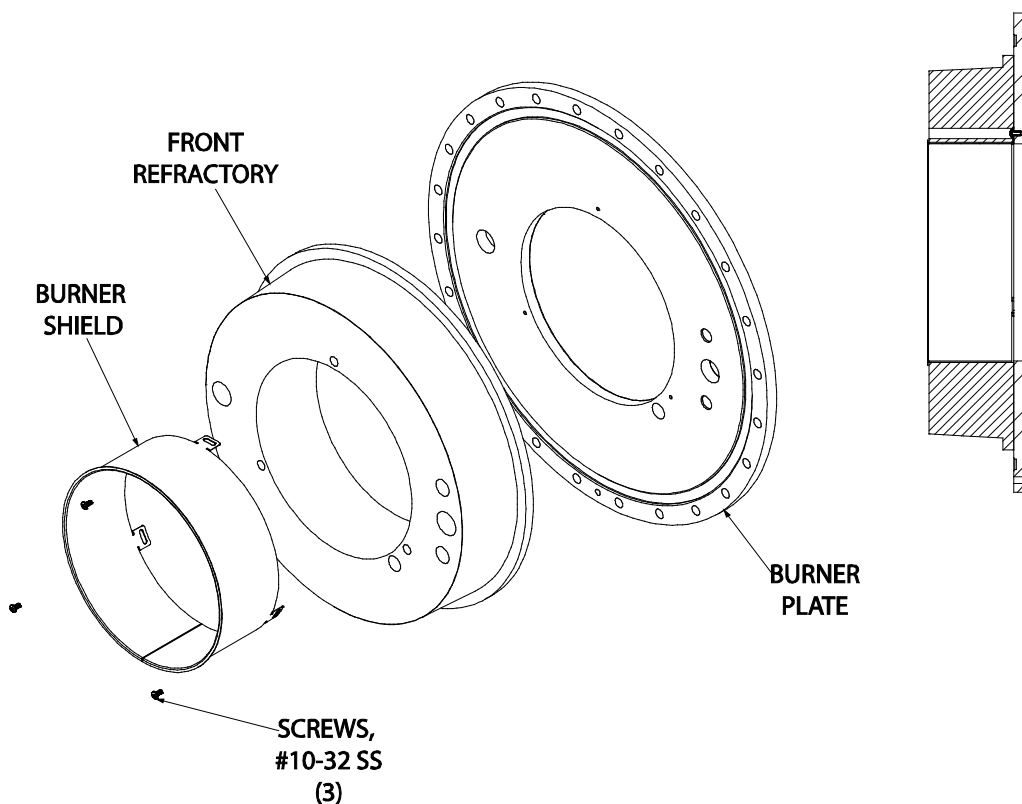

Figure 7-9: Front Plate Assembly
7. Remove the three (3) 10-32 screws securing the Burner Shield to the Burner Plate (Figure 7-9).
9. Straighten the 90° bend in each tab so they are even with the sides of the Burner Shield (Figure 7-9).